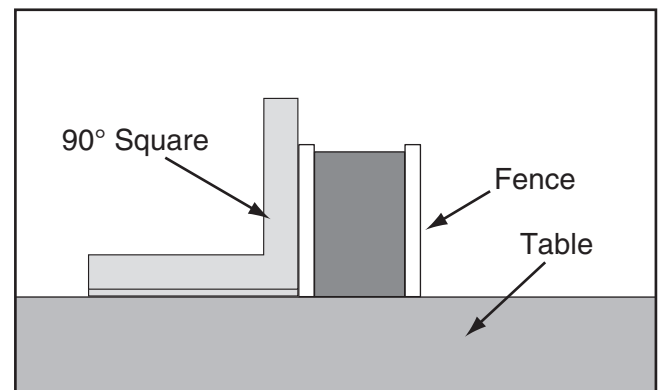

Figure 120. Example of checking fence squareness to table.
2. Place square on table against face of fence (**Figure 120**) to check if fence is square to table.